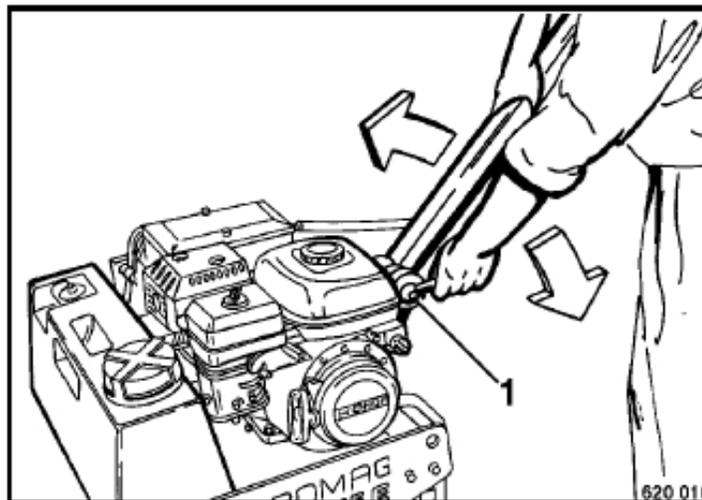

Fig. 13
- | Loosen the T-bar 1 (Fig. 13) and adjust the steering rod to operating position.